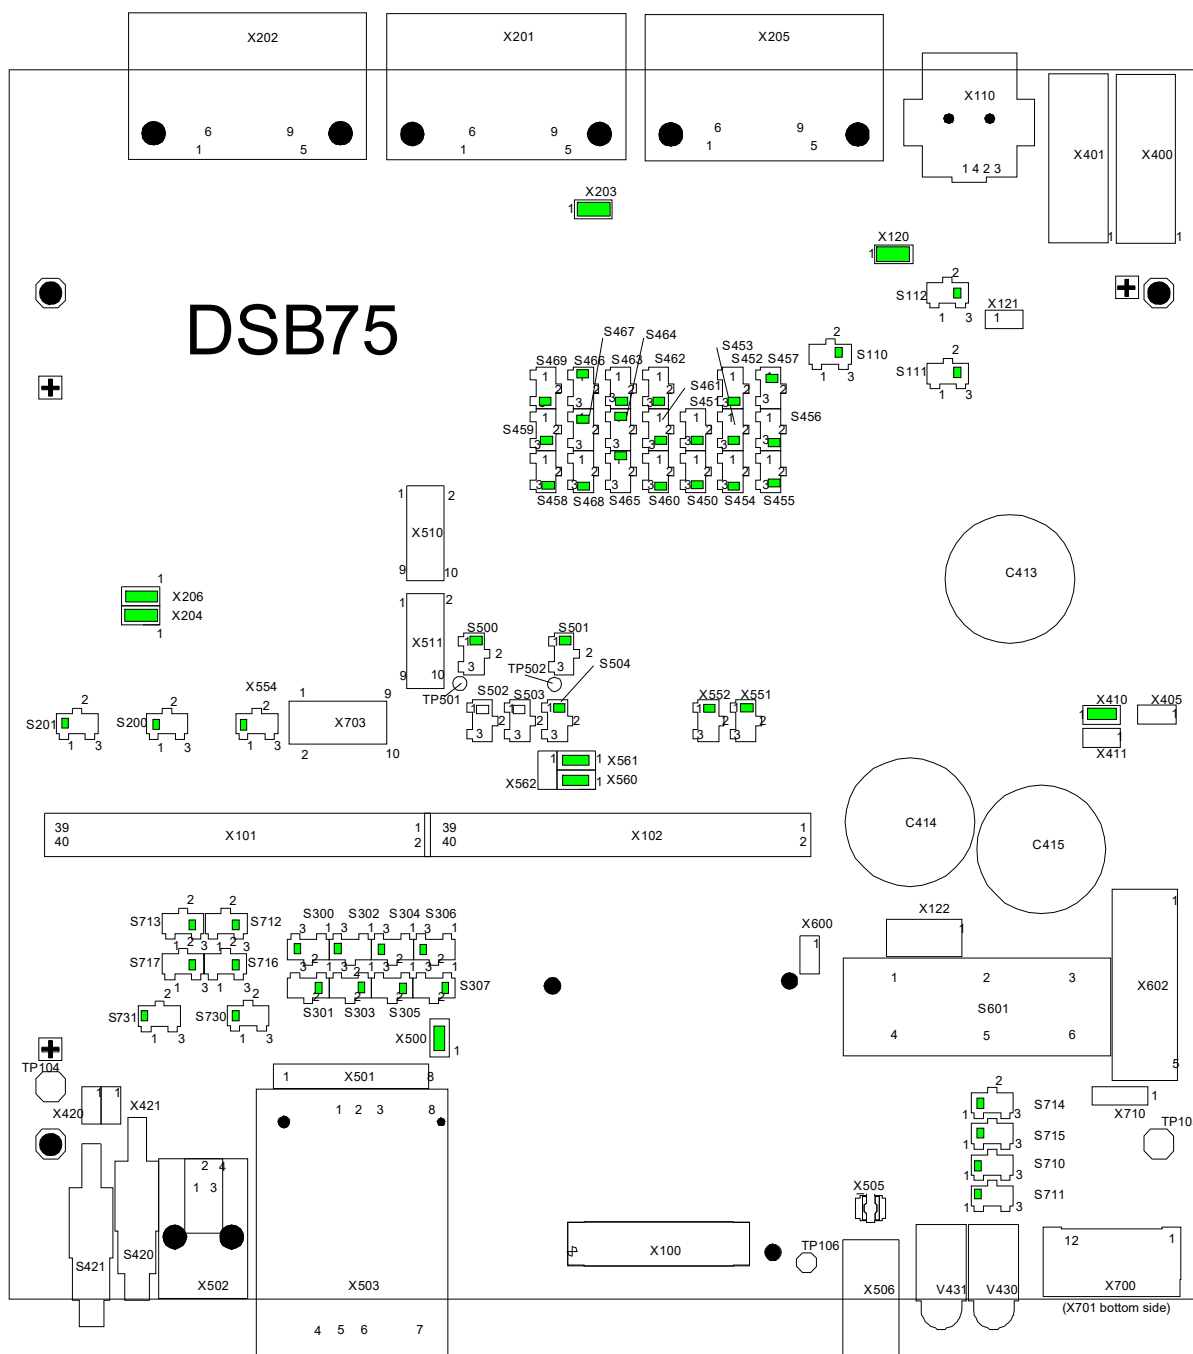

Figure 1: DSB75 configuration
- Ensure that all jumpers and slide switches on the DSB75 are set to their default positions as show in Figure 1 and in [\[3\]](#).